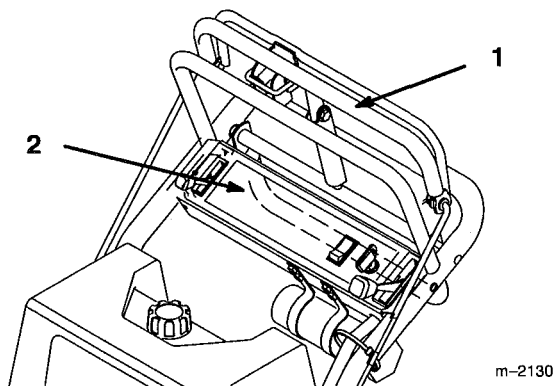

Figure 20
3. Slowly press on the upper control bar to move forward (Fig. 20).
To go straight, apply equal pressure to both ends of the upper control bar (Fig. 20).
To turn, release pressure on the upper control bar side away from the direction you want to turn (Fig. 20).
3. Slowly pull on the lower control bar to move rearward (Fig. 20).